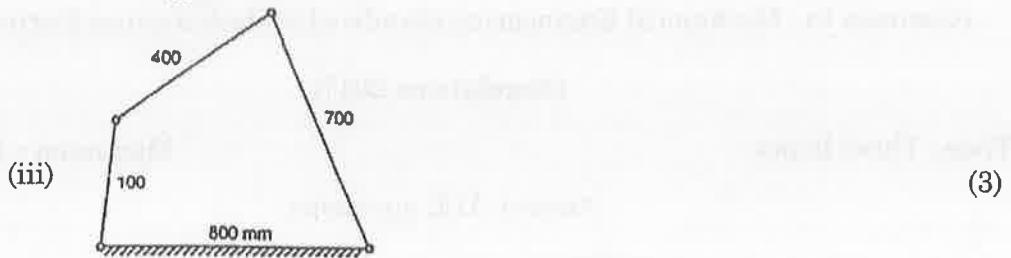

Fig. 11 (a) Four-bar mechanism All dimensions are in 'mm'
11. (a) Identify the nature of the mechanism shown in Fig. 11 (a) (i) to (iv).